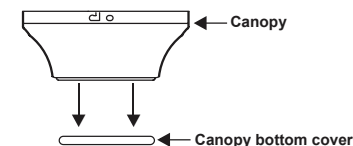

Figure 10
1. Remove the decorative canopy bottom cover from the canopy. (Fig. 10)